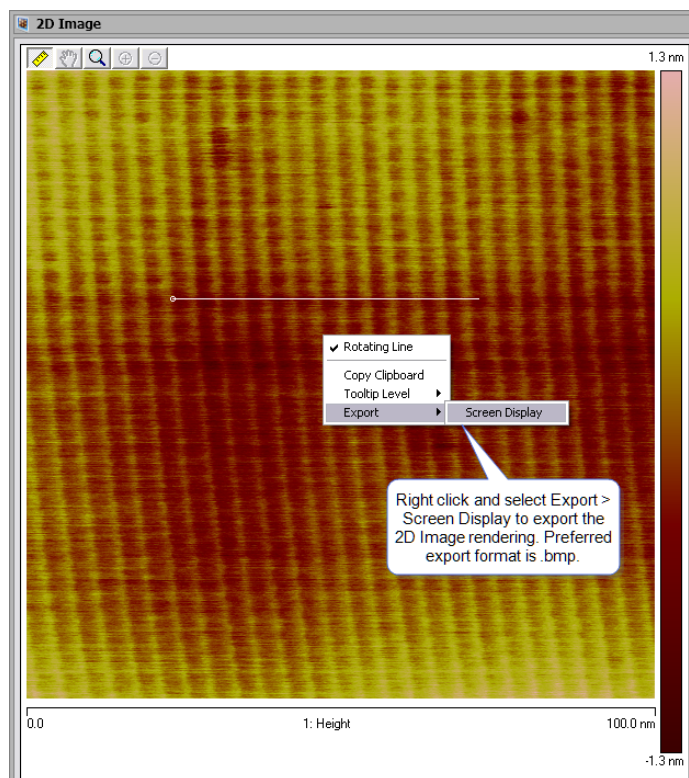

Figure 5.1e: Export Menu
9. To export the **2D Image** rendering, right click anywhere in the **2D Image** rendering and select Export > Screen Display. Name the file and choose the location to save it. The preferred file for saving exported images is .bmp. See Figure 5.1e.